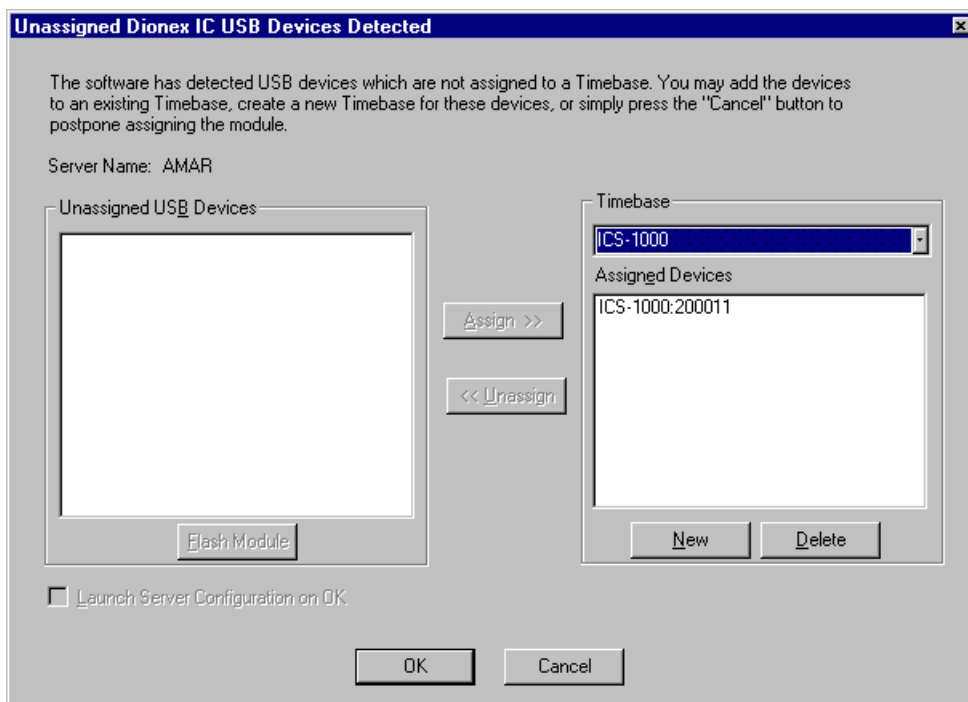

Figure 11. ICS-1000 Assigned to a Timebase
7. In the Unassigned USB Devices box, select the ICS-1000 and then click the **Assign** button. The ICS-1000 is now assigned to the timebase (see Figure 11). If you are installing more than one ICS-1000, you can verify the serial numbers for each by checking the label on the component panel.